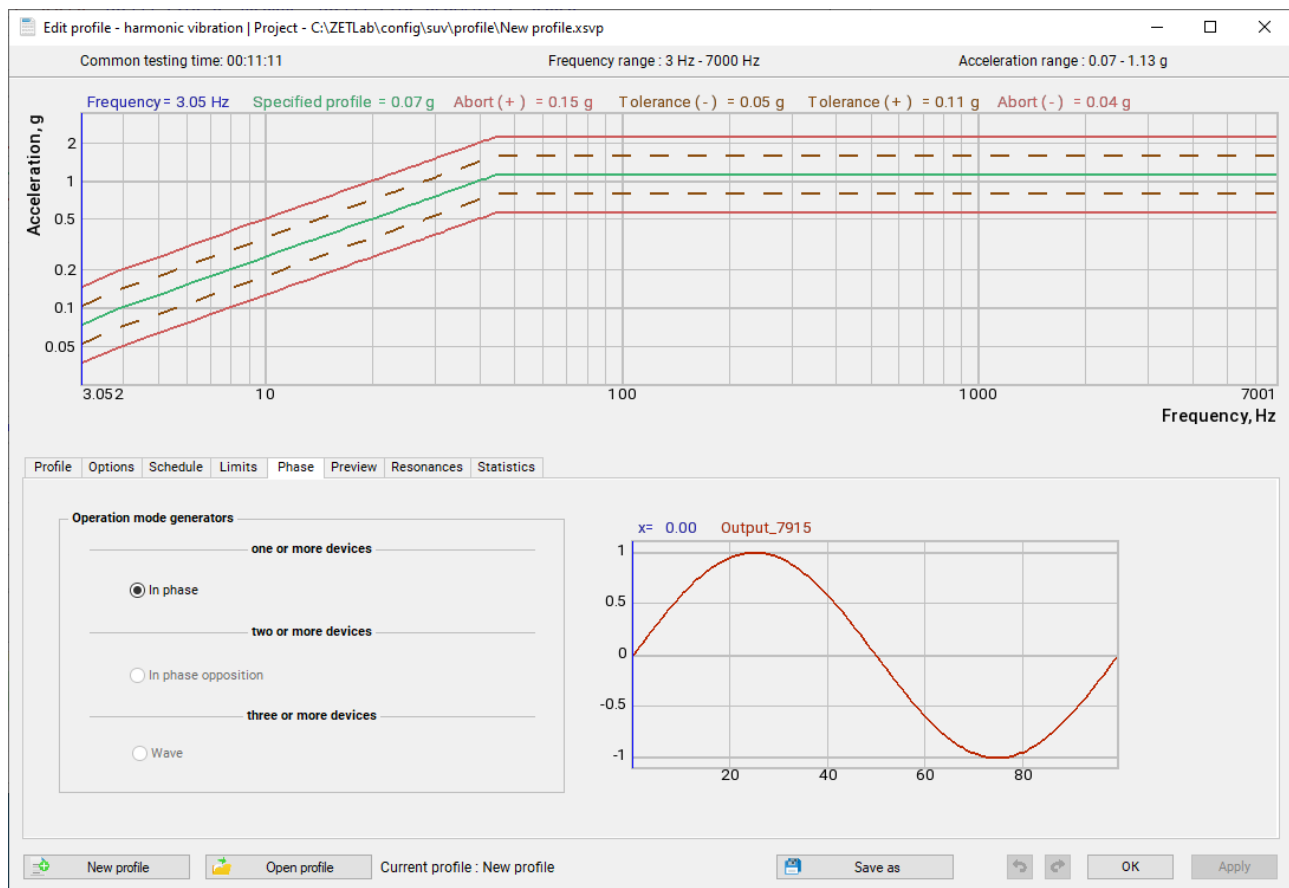

Fig. 5.27 Profile Configuration window, Phase tab
- On the Phase tab, you can set the operation mode for the VCS generators (*Fig. 5.27*).